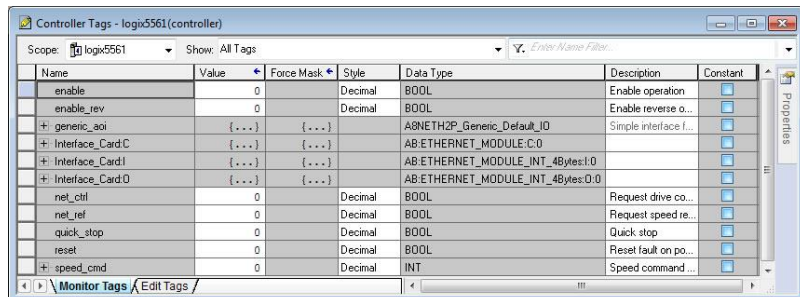

Figure 32: Create Generic Default AOI Tags
- 4) Create the tags shown in Figure 32.